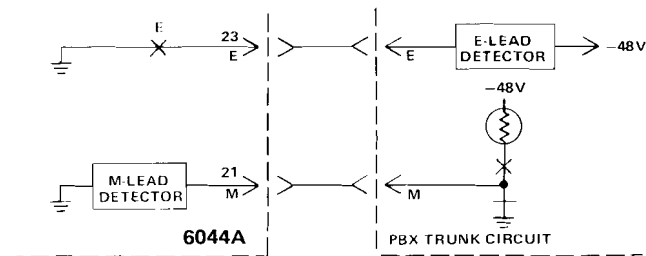

figure 3. Type I E&M interface
1.07 The 6044A can be switch optioned for DX1 or DX2 operation. With DX1 operation, M-lead signals are input to and E-lead signals are output from the module. With DX2, E-lead signals are input to and M-lead signals are output from the module. Either Type I, II, or III E&M lead interfacing (see figures 3 through 5 in section 2 of this Practice) can also be switch-selected. Please note that while the Type I and II interfaces can be used with either DX1 or DX2 operation, the Type III interface can only be used with DX1.
2.07 The 6044A operates in either the DX1 mode (M-lead input, E-lead output) or the DX2 mode (E-lead input, M-lead output). The DX2 mode is generally used in tandem applications of DX sets, in applications where the 6044A interfaces carrier or other signaling sets, or in other applications where a terminal-side E&M interface must be provided. Both DX1 and DX2 operation eliminate the need for a pulse-link repeater in applications where the 6044A interfaces carrier or in tandem DX-set applications. Type I, II, or III E&M-lead interfacing can be switch-selected (see figures 3 through 5). The Type I and II interfaces can be used with either DX1 or DX2 operation; the Type III interface is **only** used with DX1. In general, Type I is used with elec-